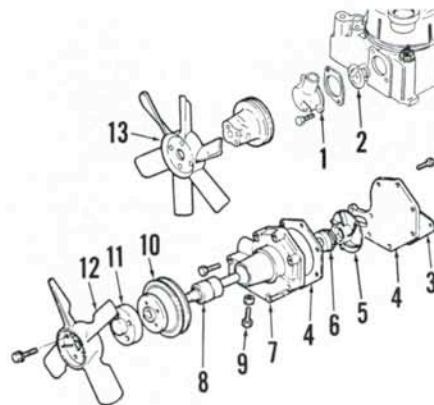

Fig. 146—Exploded view of water pump typical of type used on 1500, 1700 and 1900 models. Water pump used on 1510, 1710, 1910 and 2110 models is similar.
Remove mounting plate (3—Fig. 146). Remove set screw (9) from housing. Press shaft and bearing assembly (8) forward out of impeller (5) and housing. Press seal (6) rearward out of housing. Press pump shaft out of pulley (10).
Fig. 147—Cross section of water pump typical of 1500, 1510, 1700, 1710, 1900, 1910 and 2110 models. Refer to text for assembly dimensions (A, B, C and D) and to Fig. 146 for legend.